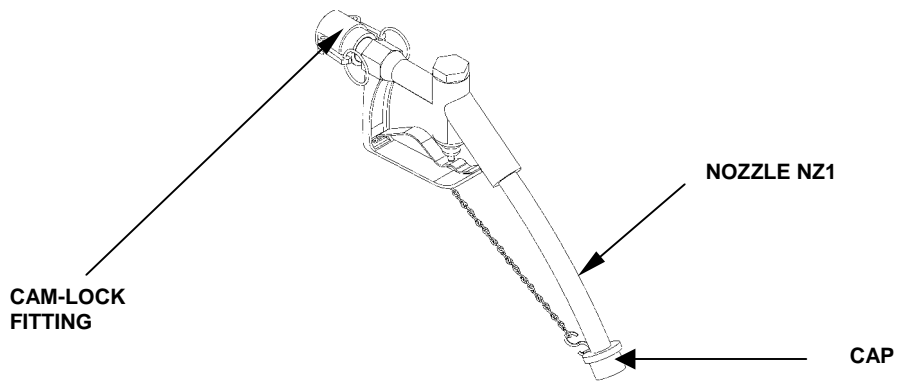

Figure 18. Product Water Nozzle.
40. Connect the other end of the fabric product water hose (blue) to the product water nozzle. See Figure 18.